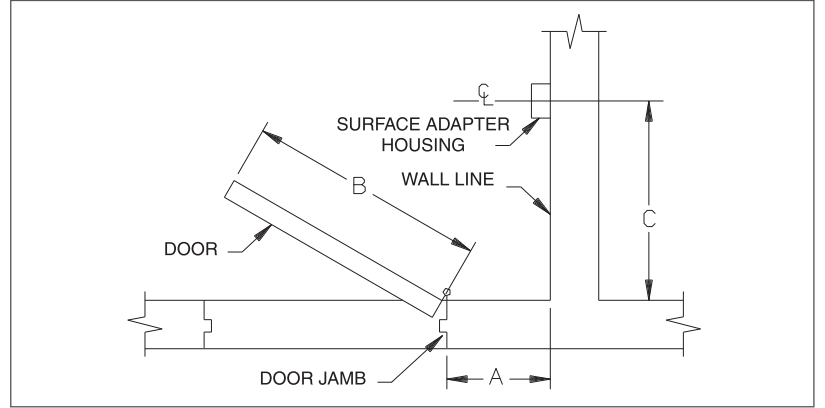

Figure 1
- 1b See Fig. 1. Measure dimensions A and B. Find the intersection of those two dimensions in Table 1. The intersection is dimension C, the centerline of the surface mount box location. (For 180° installations, take B dimension and subtract 5 5/8" to find the centerline of junction box.)